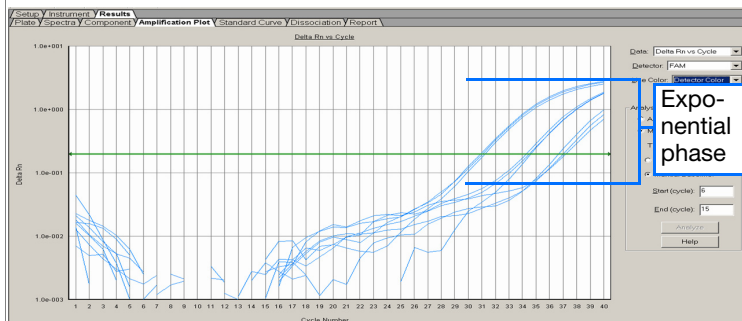

Figure 4 Influenza A subtype H5 assay RNA positive control amplification plot — 1000, 100, and 10 copies (7500 SDS System)
4.	<p>Verify that no negative control samples show target-specific amplification (see Figure 4 on page 28 for an example of target-specific amplification).</p> <p>If you observe target-specific signal in negative control wells, see “Appendix A: Troubleshooting” on page 30.</p>
Figure 4 shows an amplification plot for the RNA positive control for Influenza A subtype H5 assay detected at 1000, 100, and 10 copies per reaction.